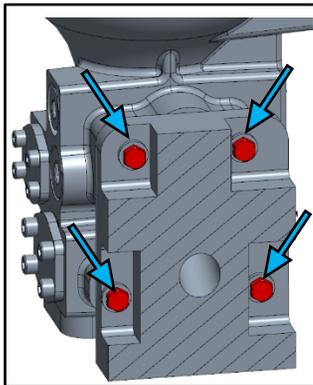

Figure 2-40. VariStroke Four Mounting Screws (VS-DX section view)
9. Finalize the servo connection by tightening the four bolts (use **3/4 in** open end wrench, tighten to **50 ± 5 LBFT (68±7 Nm)** (Figure 2-40).